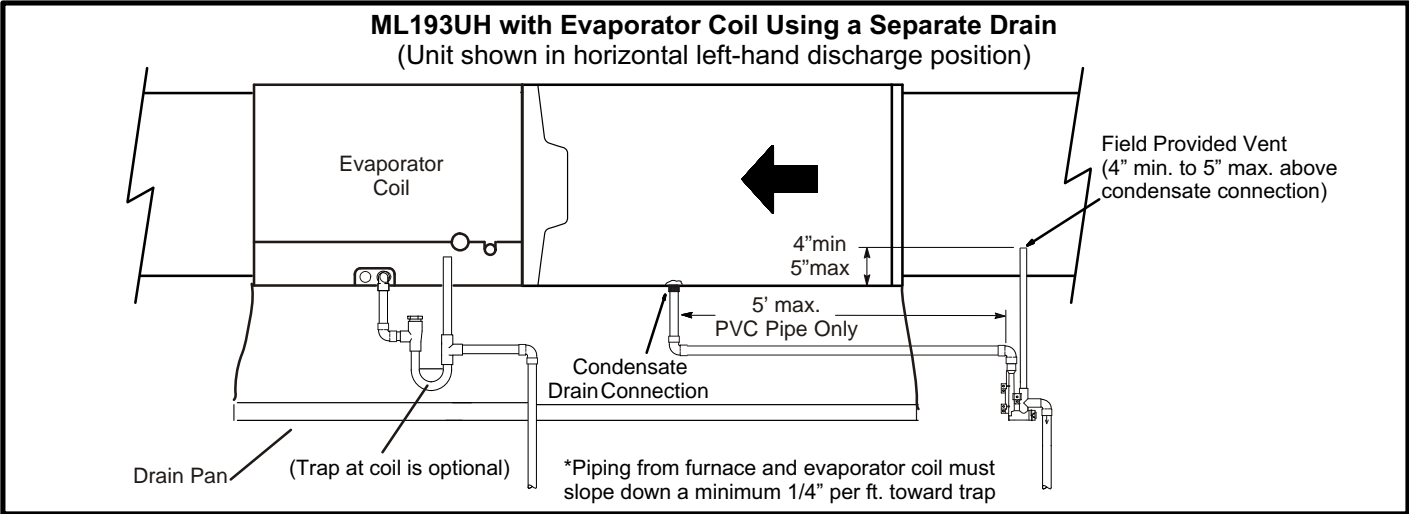

**FIGURE 50**
- 5 - Figures 49 and 51 show the furnace and evaporator coil using a separate drain. If necessary the condensate line from the furnace and evaporator coil can drain together. See figures 50, 52 and 53.